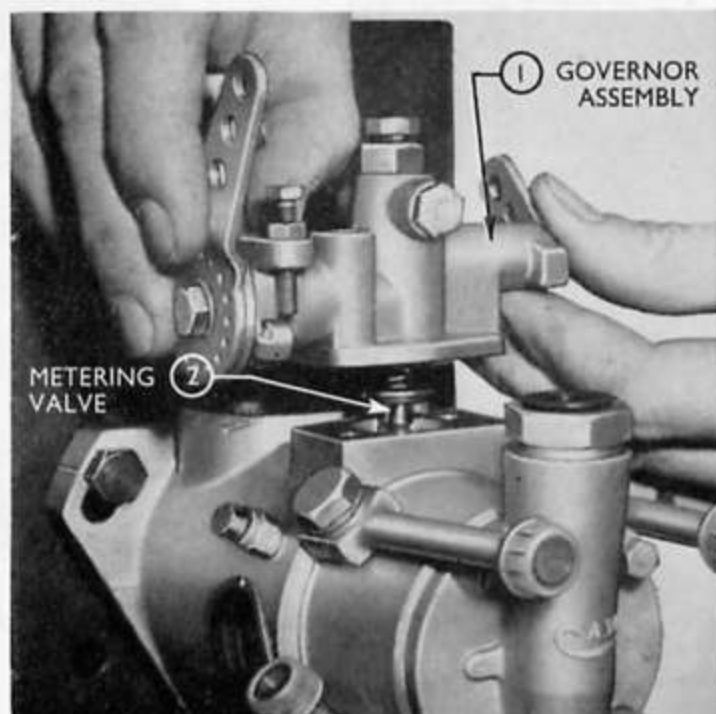

Fig. 35
4. Unscrew and remove the two bolts securing the governor assembly to the pump body. This must be carried out without applying any side thrust, as it is possible to damage or break the metering valve (see Fig. 35).